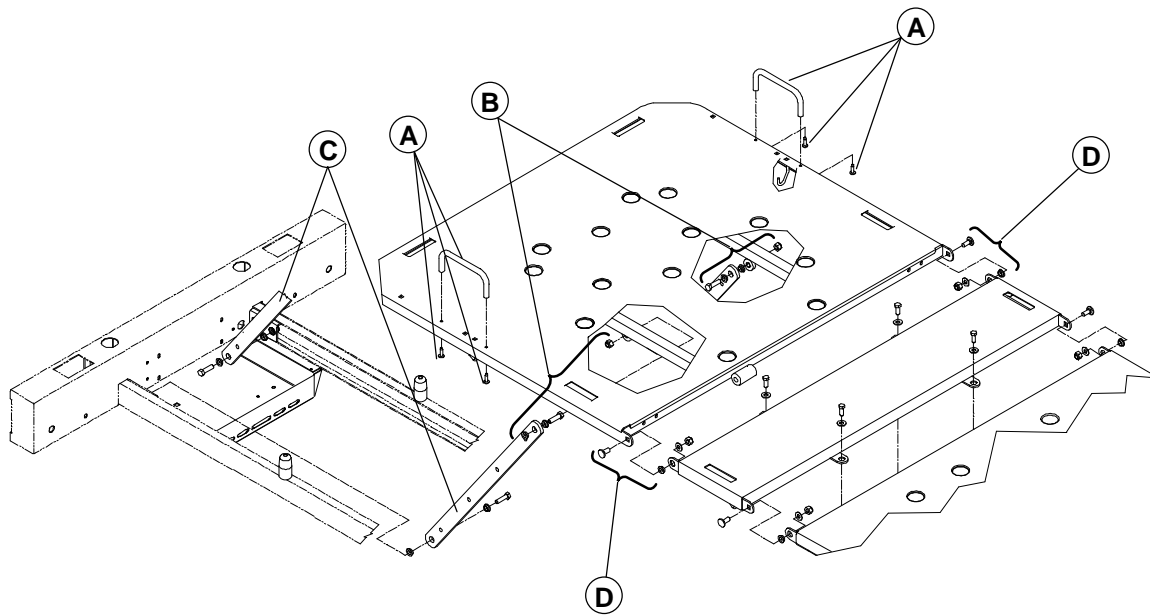

Figure 4.9D
10. Using a 1/2" wrench, remove the locknut/bolt (E) holding the upper part of the compression bar to the head section and lay it down.
11. Using a 1/2" wrench, remove the locknut/flat washers(2)/bolt (F) linking the lower part of the compression bar to the head section and remove the compression bar.
13. Using a 1/2" wrench, remove the two locknuts/flat washers/shoulder spacers/bolts/ (D, fig. 4.9D, page 36) linking the head section to the seat section. Remove the defective head section.
16. Using a 7/16" wrench, remove two locknuts/bolts (E) holding both release handles to the head section.
17. Remove the pressure cable clip (F) from the head section.
18. Disconnect the two wires (G) from the micro switch. Note the wire connecting positions.
19. Using a 1/2" wrench, remove the locknut/bolt (H) holding the upper part of the pneumatic cylinder activation mechanism.
20. Using a 1/2" wrench, remove the locknut/shoulder spacers(2)/bolts (J) linking the upper part of the mattress support lever to the head section.
22. Using a 1/2" wrench, remove the two locknuts/flat washers/shoulder spacers/bolts (D, fig. 4.9D, page 36) linking the head section to the seat section. Remove the defective head section.